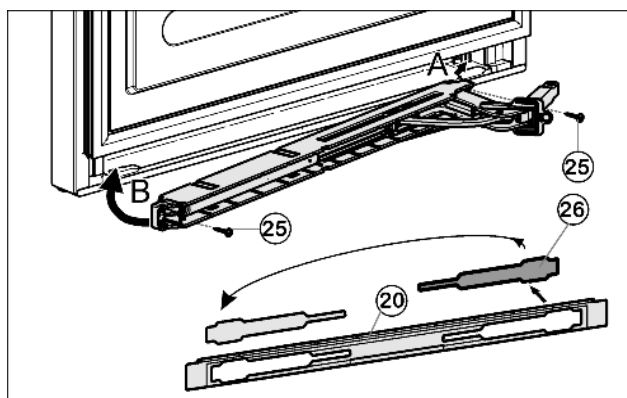

Fig. 13
- ▶ Remove the cover Fig. 13 (26) from the faceplate Fig. 13 (20) and re-insert it at the other side.
- ▶ Engage the soft stop unit with the joint pointing to the hinge side (A) and swivel into place (B).
- ▶ Screw the soft stop unit firmly into place (2 x Torx® 15) Fig. 13 (25).